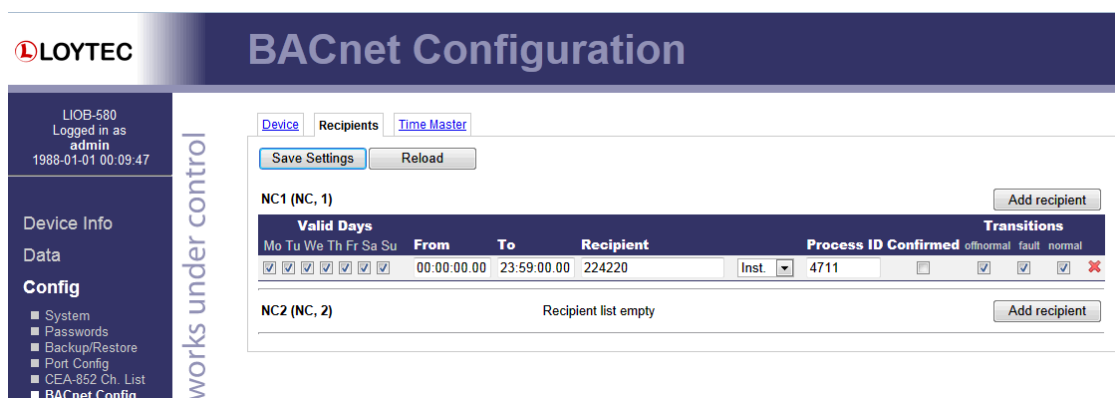

Figure 41: BACnet Recipients Configuration
BACnet notification class (NC) objects have a recipient list. Other BACnet devices, that shall act as alarm recipients and receive alarm notifications need to be added to the recipient list of the respective notification class. The **Recipients** tab of the **BACnet Config** menu can be used to view currently subscribed recipients as shown in Figure 41. Recipient entries can be modified and deleted from the list. It is also possible to add new recipients to the list with the **Add Recipient** button. This way it is possible to integrate third-party devices as alarm recipients without an OWS.